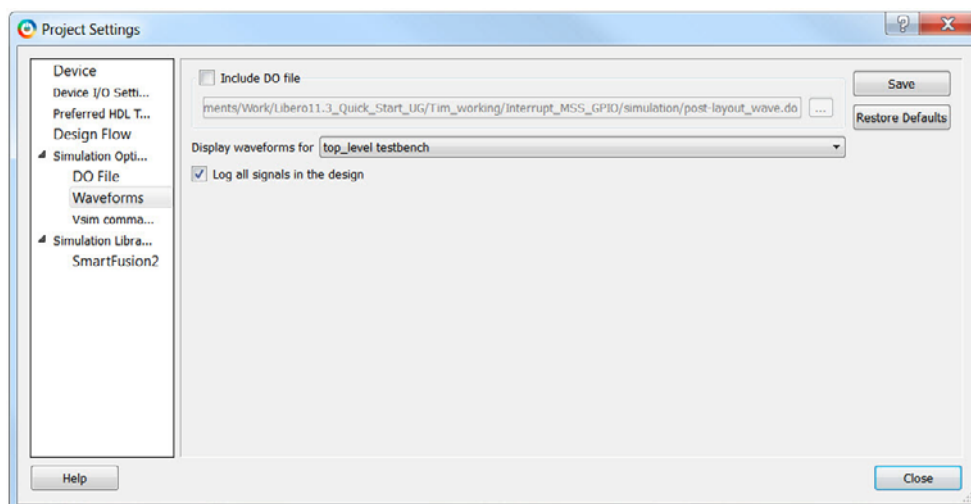

Figure 4-4 • Changing Waveform Options
5. Under **Simulation Options**, click **Waveforms** and click the checkbox to enable the option **Log all signals in the design** (Figure 4-4).